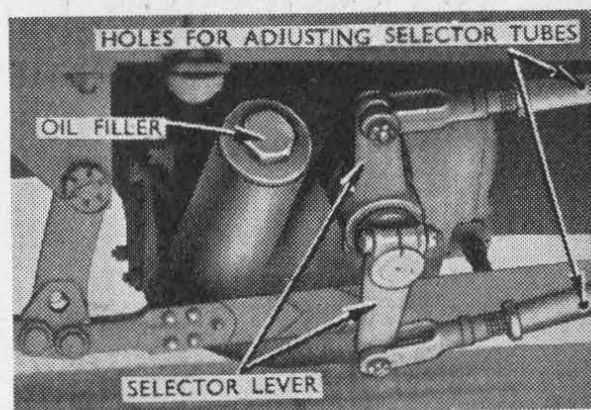

Fig. 27. Auxiliary Gearbox Selector Rods and Oil Filler.
- (b) Auxiliary gear box (Fig. 27).